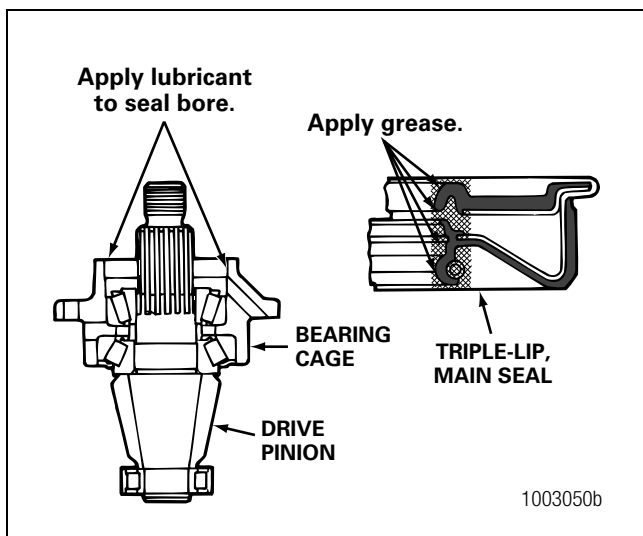

Figure 5.19
- A. Apply the same lubricant used in the axle housing to the outer surface of the seal and the seal bore in the bearing cage. Figure 5.19.